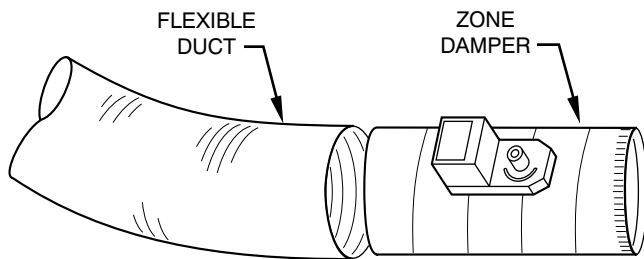

Fig. 5 – Round Flexible Ductwork
1. Slip one end of the flexible ductwork over the zone damper end (See Fig. 5).